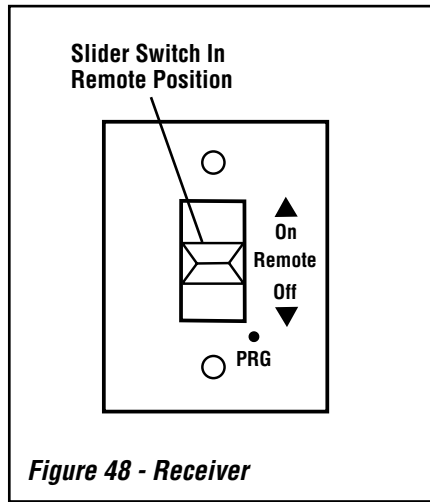

Figure 48 - Receiver
Place the ON/REMOTE/OFF switch in the REMOTE position (see **Figure 48** on **Page 38**). Insert the end of the paper clip (or other similar object) into the hole marked "PRG" on the receiver front cover. The control board, located in the fireplace, will "beep" three (3) times to indicate that it is ready to synchronize with a transmitter.